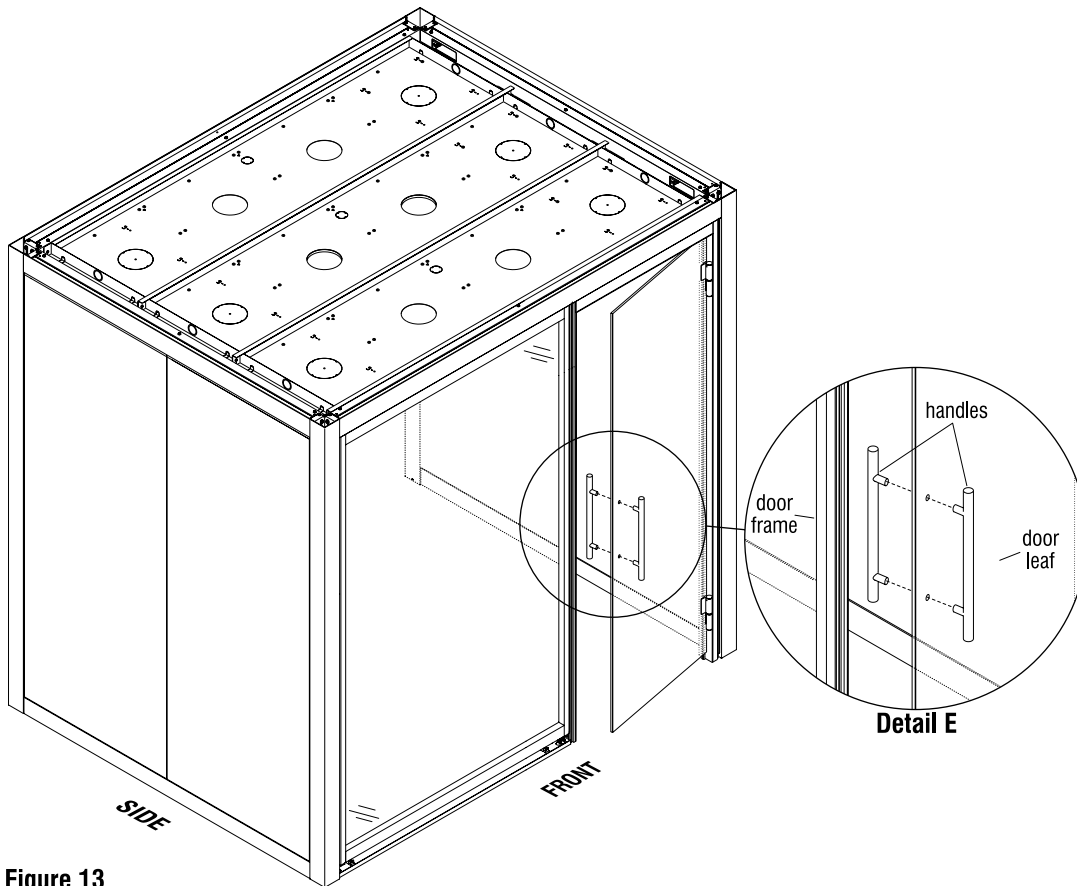

Figure 13
21. With door leaf held open, install the door handle to the door leaf per the manufacturer's instructions (Figure 13 & Detail E).